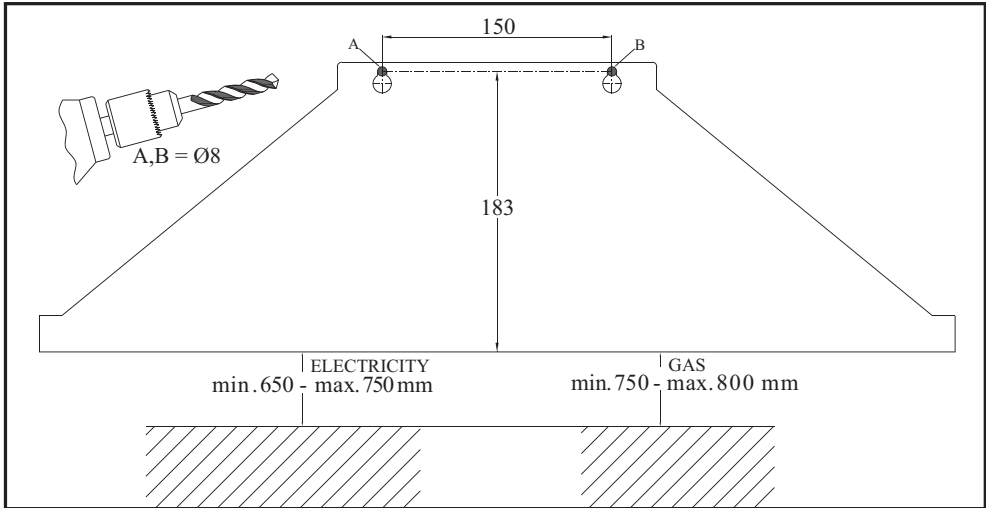

Fig. 7
8.1 installation templ / Fig. 7 /
If your appliance has double flues, drill holes in the points marked with (C, D) using a $\text{Ø} 4$ mm drill bit in order to screw the flue installation plate by referring to the min. and max. height measures of the product. Figure 7